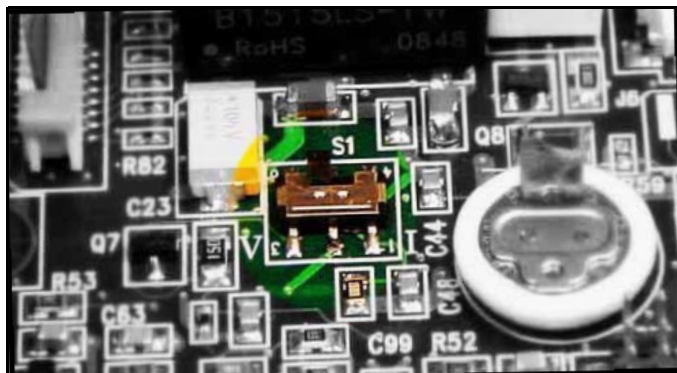

Figure 8: Switch S1 on the Main PC Board
Complete these steps to check or reset switch **S1** (see Figure 8).
4. Locate switch **S1** (see Figure 8, highlighted area).